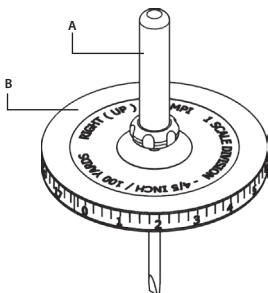

FIGURE 3-13. ADJUSTMENT DISK
9. Assemble the Adjustment Disk. Insert the screwdriver into the center of the disk (B) as shown in Figure 3-13. Secure the fixing screw to the bottom side of the disk.